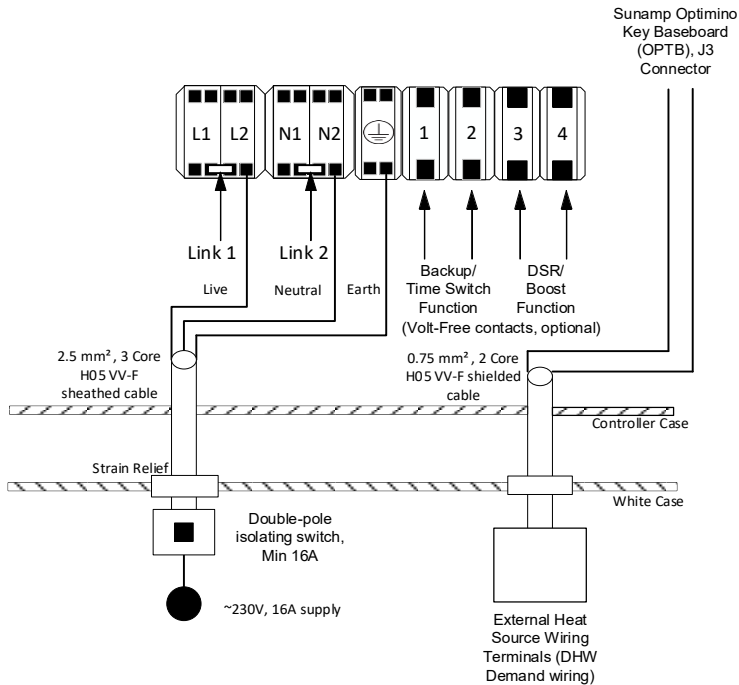

Figure 11 – Thermino xPlus Heat Battery wiring without solar power diversion
- Without Solar Power Diversion follow (Section 6.4.1, Figure 11)